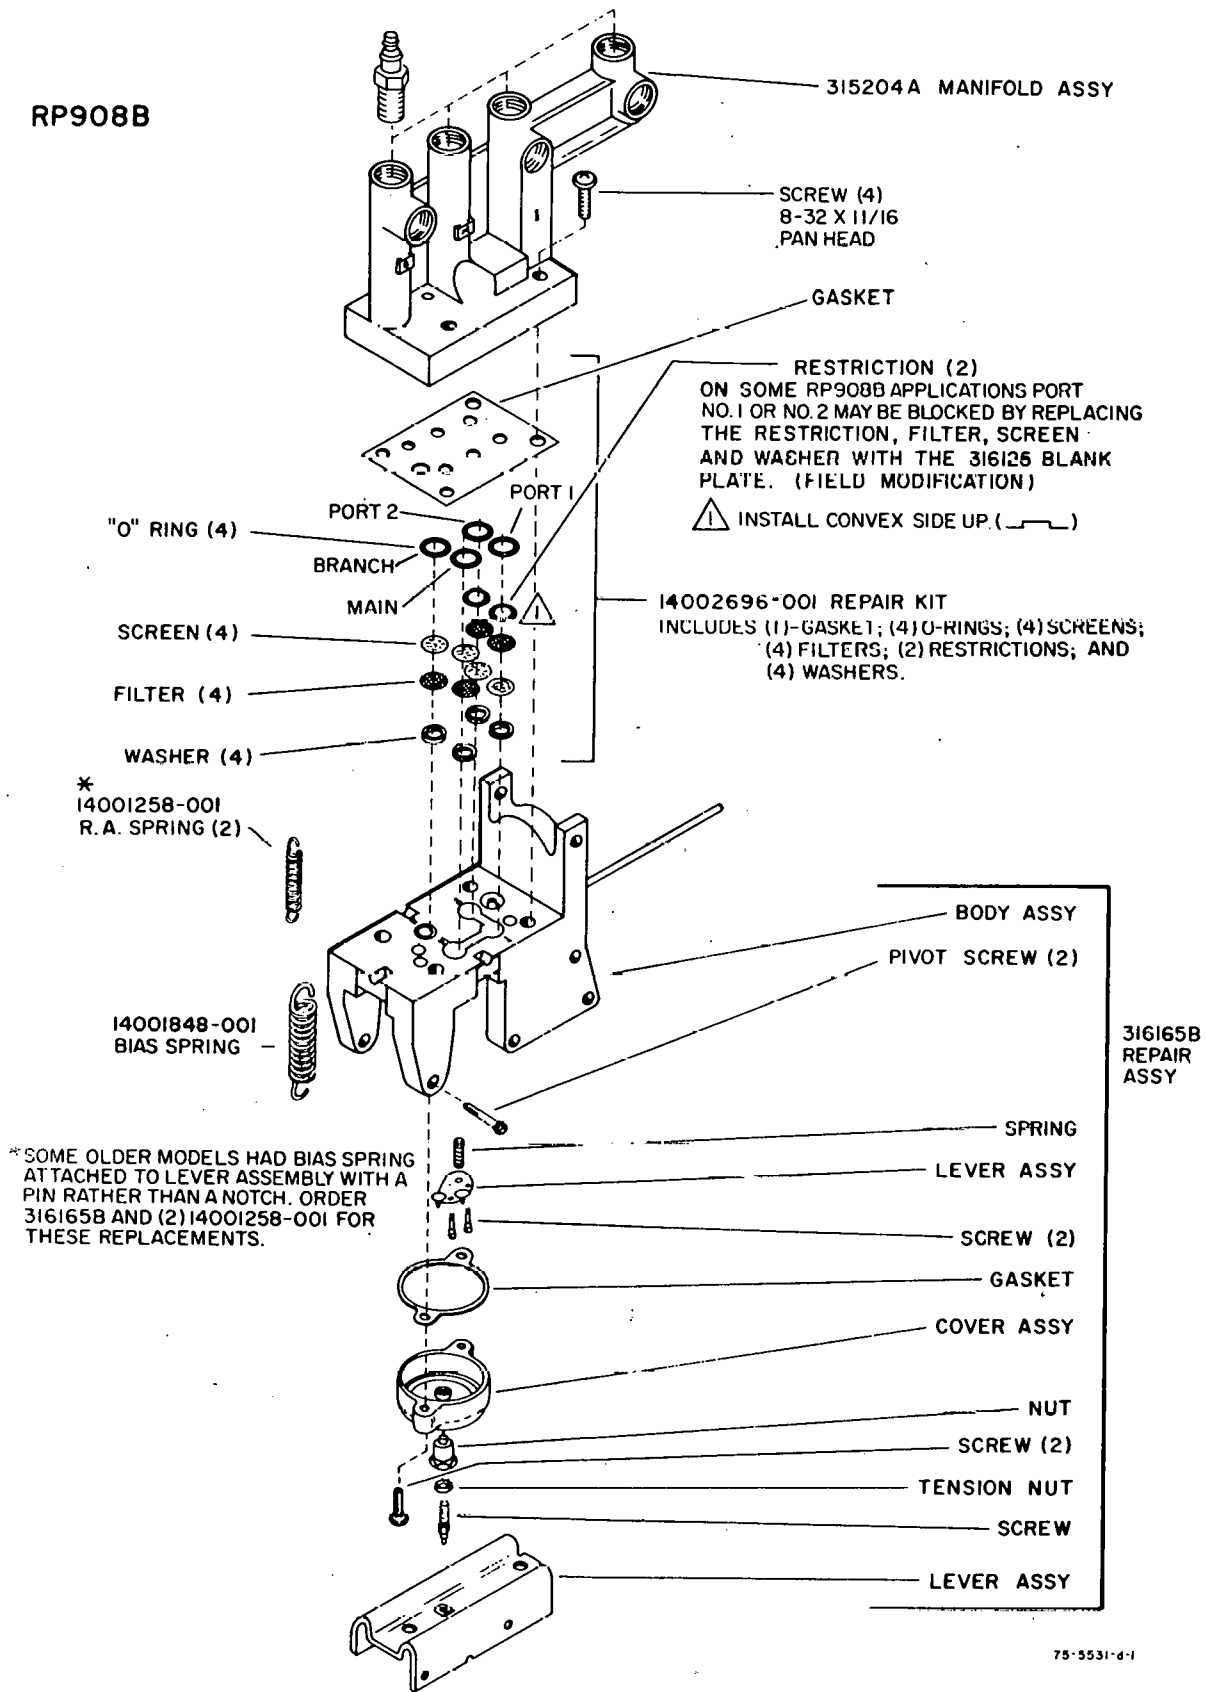

Fig. 12. Detail of RP908B Manifold and Body Assembly.
1. Remove four (4) manifold screws and save.
7. With the new parts from the kit, install the washers, filters, screens and restriction(s). See Figure 10 for RP908A and Figure 12 for the RP908B.